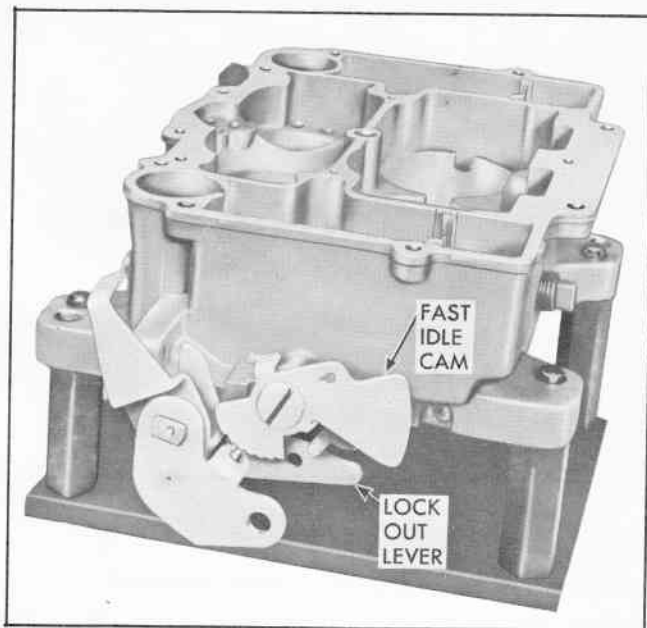

Fig. 15 Location of Fast Idle Cam and Lockout Lever
18. Remove fast idle cam attaching screw, fast idle cam, spacer and lockout lever (Fig. 15).